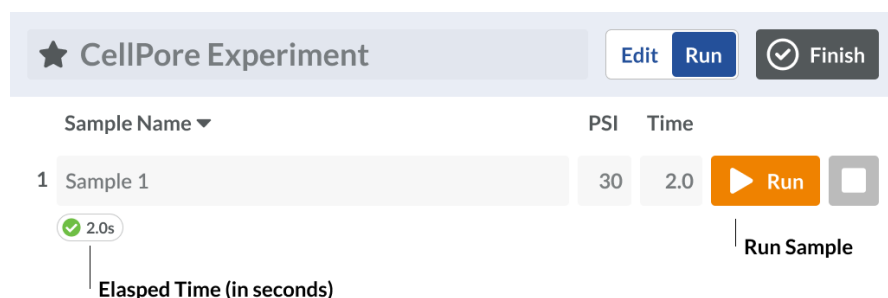

Figure 36. Automatic Mode Controls for Running a Sample
3. When completed, a badge with the run information appears below the sample (Figure 36).